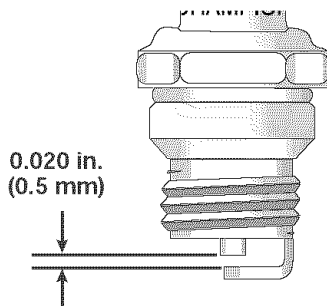

Fig. 41
3. Replace a cracked, fouled or dirty spark plug. Set the air gap at **0.020 in. (0.5 mm)** using a feeler gauge (Fig. 41).